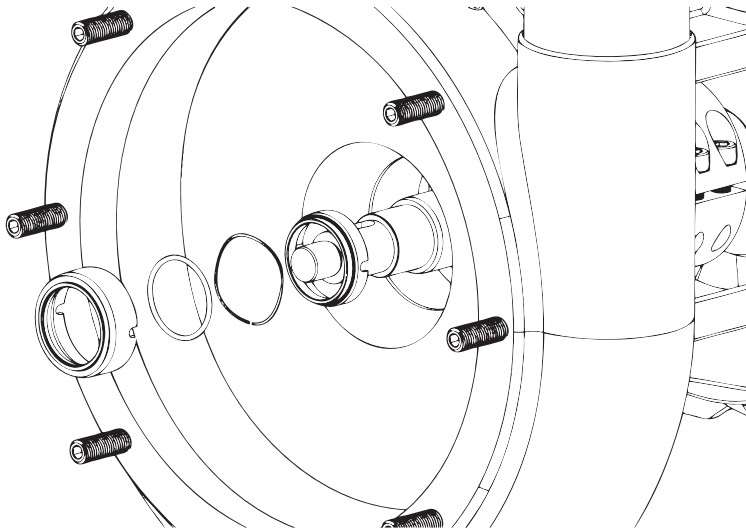

Figure 28
1. Slide the rotating double driver onto the stub shaft, the rotating double spring, the rotating double o-ring and then the rotating double seal in this order one component at a time. **Figure 28.**